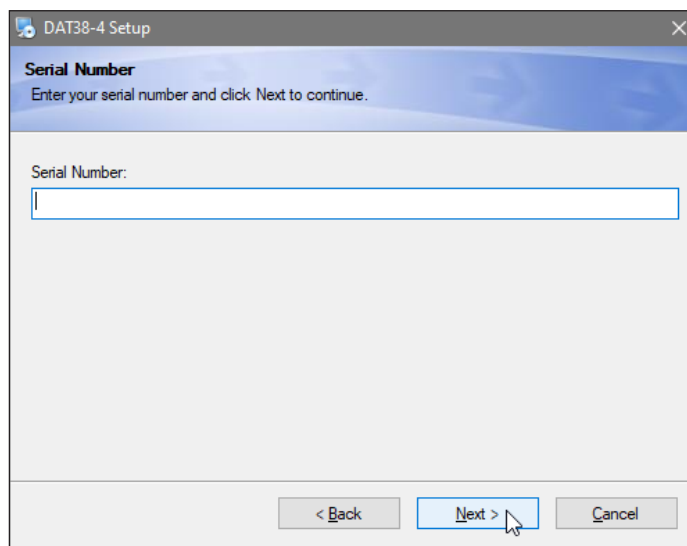

Figure 1.3 Serial Number Entry window
3. Enter the serial number in the Serial Number window (Figure 1.3) and click Next.